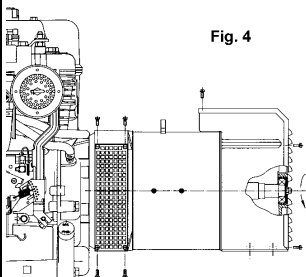

Fig. 4
-) lock the central bolt by applying a tightening torque of  $21 \pm 7\%$  Nm to the M8 nut; reassemble the lateral protective nets and the rear closing grid by applying a tightening torque of  $3,5 \pm 7\%$  Nm to the M5 screws (figure 4)